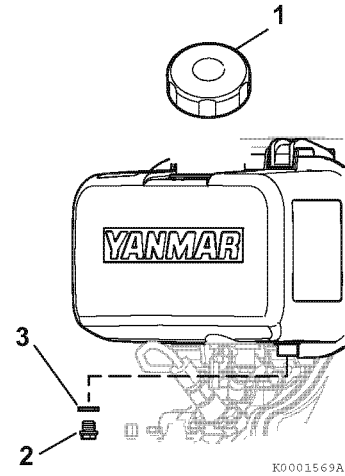

Figure 5-11
1. Remove the fuel cap (1, **Figure 5-11**).
2. Position an approved container under the fuel tank to collect the fuel and remove the fuel tank drain plug (2, **Figure 5-11**) and gasket (3, **Figure 5-11**) to drain the fuel.
8. Tighten the fuel tank drain plug (2, **Figure 5-11**) with new gasket (3, **Figure 5-11**).
9. Replace the fuel cap (1, **Figure 5-11**) and hand-tighten. Over-tightening the fuel cap will damage it. Refill fuel tank. *See Filling the Fuel Tank on page 4-12.*